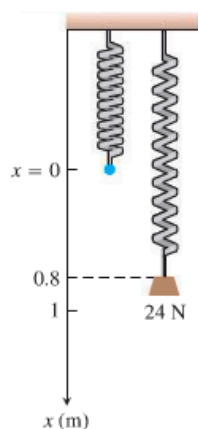

FIGURE 6.37 A 24-N weight stretches this spring 0.8 m beyond its unstressed length (Example 3).
- (b) *The work to stretch the spring 2 m.* We imagine the unstressed spring hanging along the x -axis with its free end at $x = 0$ (Figure 6.37). The force required to stretch the spring x m beyond its natural length is the force required to hold the free end of the spring x units from the origin. Hooke's Law with $k = 30$ says that this force is